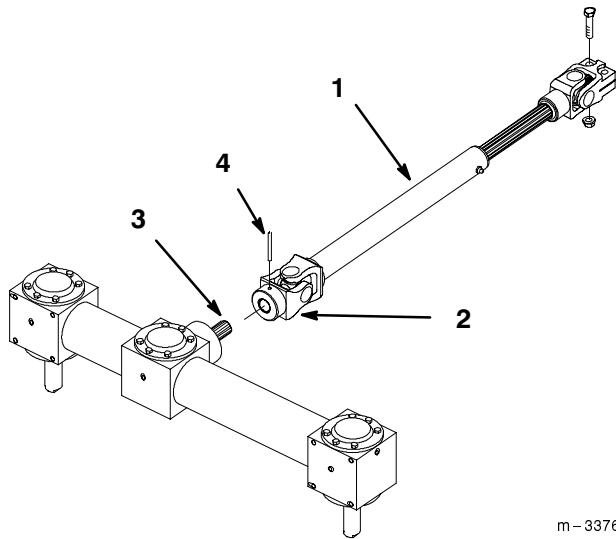

**Figure 6**
4. Secure spring end plate assembly to carrier frame with 3/8" x 7/8" (23 mm) shoulder bolt and 3/8" locknut (Fig. 6).